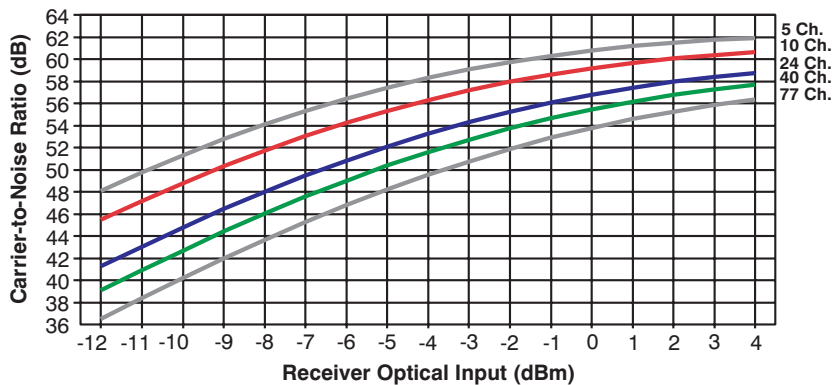

Figure 1.3 CNR vs. Receiver Optical Input and Channel Loading
- 4) Figure 1.3 show the CNR versus received optical input power and number of channels. The horizontal axis is the amount of optical light that reaches the receiver. (It is not the loss between the transmitter and receiver.) The vertical axis shows the CNR.